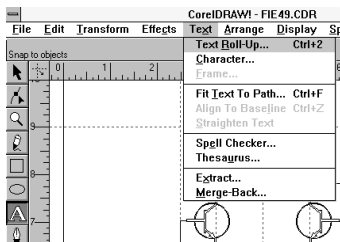

Fig. 23
**61.** We need to set the type size and font for the text characters. Click on the text menu and then highlight the Text Roll-up submenu, as in **Figure 23**.